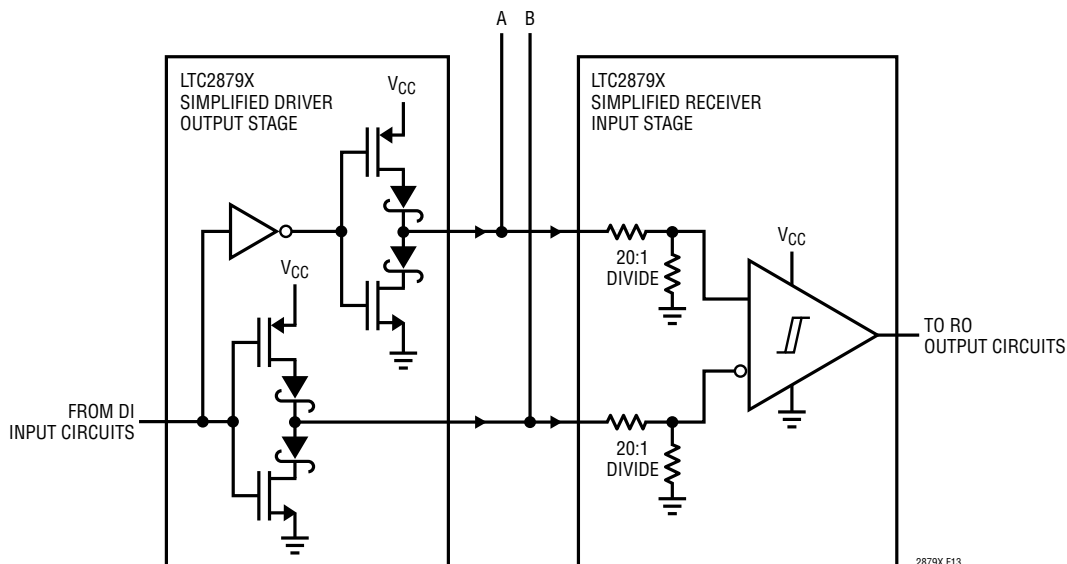

Figure 13. Internal Circuit Structure at A/B Pins that Tolerates Large Positive and Negative Voltages
The LTC2879X A and B pins can be safely shorted to voltages as high as $\pm 60\text{V}$. This extreme level of fault protection is achieved by using a high voltage BiCMOS integrated circuit technology. The naturally high breakdown voltage of this technology provides protection in powered off and high impedance conditions. Figure 13 further illustrates how the driver and receiver inputs tolerate large voltages above the supply and below ground
3.3V-powered LTC2879X devices can be mixed with other RS485 transceivers running from 5V on the same network. There is no concern for the higher voltage of a 5V node overdriving the 3.3V node due to the overvoltage-tolerant design of the LTC2879X, as illustrated in Figure 13.